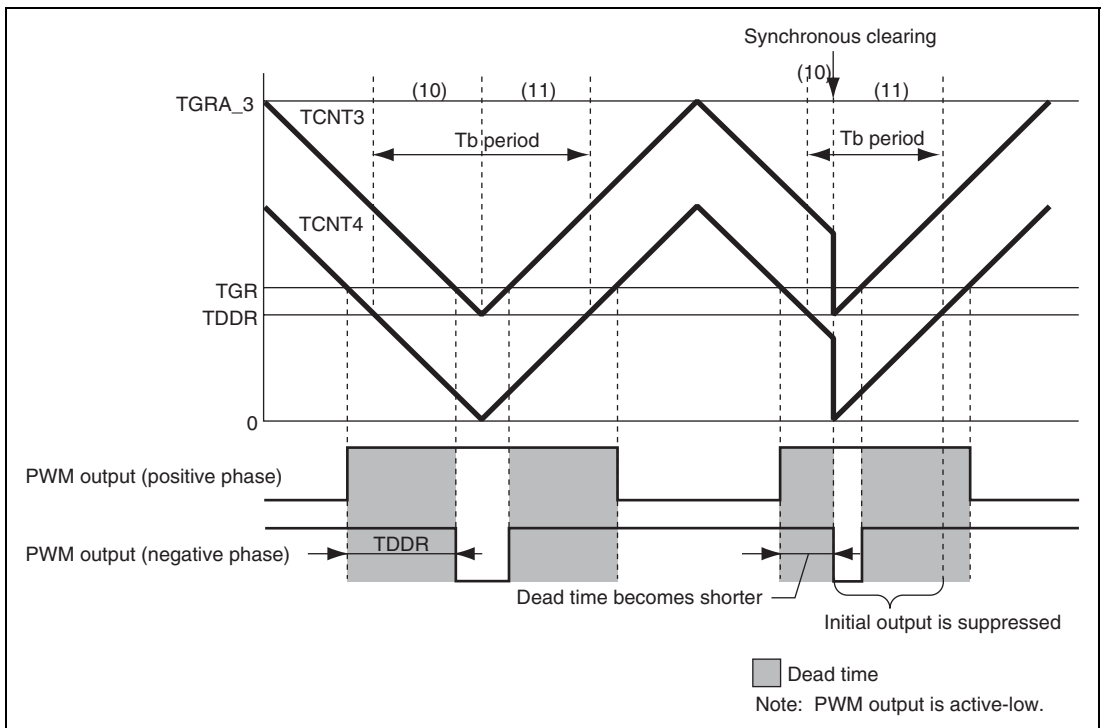

Figure 11.137 Example of Synchronous Clearing under Condition (1)
Condition (1) In the initial output suppression period (10), synchronous clearing is performed while the PWM output is in the dead time (figure 11.137).